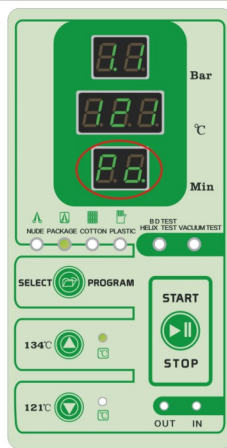

Fig.7.4-4
(4)***First times Exhaust stage:***when the pressure up to about 1.1bar,the control system will open the exhaust-solenoid valve(Ev1) and drain water-solenoid valve(Ev5) for exhausting till pressure down to P=0.0bar.the time display window show “Po” .(Fig.7.4-4)
(7) ***Second times Exhaust stage:***when the pressure up to about 1.1bar,the control system will open the exhaust-solenoid valve(Ev1) and drain water-solenoid valve(Ev5) for exhausting till pressure down to P=0.0bar.the time display window show “Po” . (Fig.7.4-4)